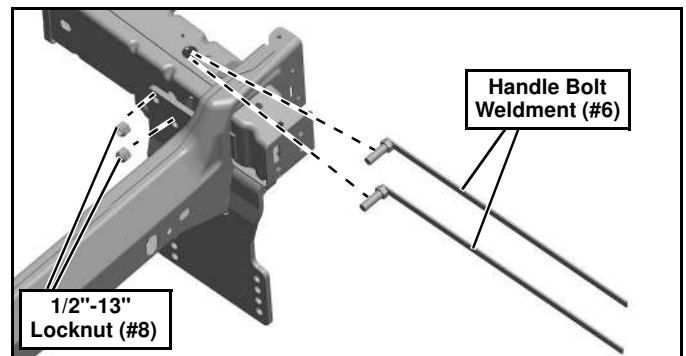

Figure 6
8. Insert a  $\frac{1}{2}$ "-13 x 1- $\frac{1}{2}$ " Handle Bolt Weldment (#6) into the frame rail and fasten one of the two holes in the rear side of the Driver Side Mounting Weldment (#2) with a  $\frac{1}{2}$ "-13 Locknut (#8) (See Figure 6). Use the hole in the top of the frame rail, just behind the front crossmember to access the inside of the frame. Bend the handle as needed and remove any excess handle sticking out of the frame. Repeat this step once more to fasten the second hole.